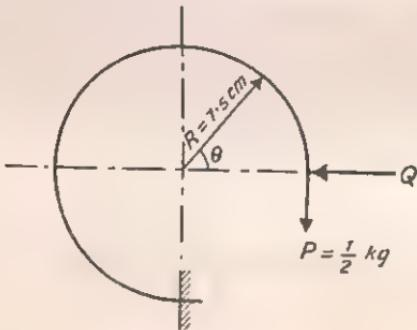

Fig. 45
24. A steel spring is shown in Fig. 45. It is formed in a circular arc subtending an angle of 270° at the centre. The lower end is rigidly fixed and a vertical force of $\frac{1}{2}$ kg is applied at the free end.
Apply a fictitious load Q as shown in Fig. 45.